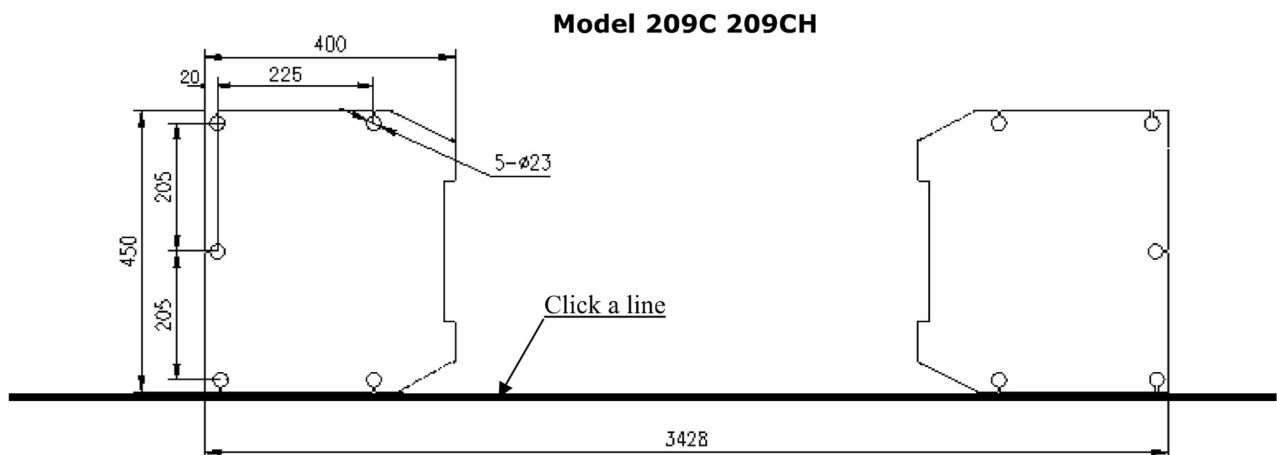

Fig. 5
B. Use a carpenter's chalk line to establish installation layout of base-plate (See Fig.5).